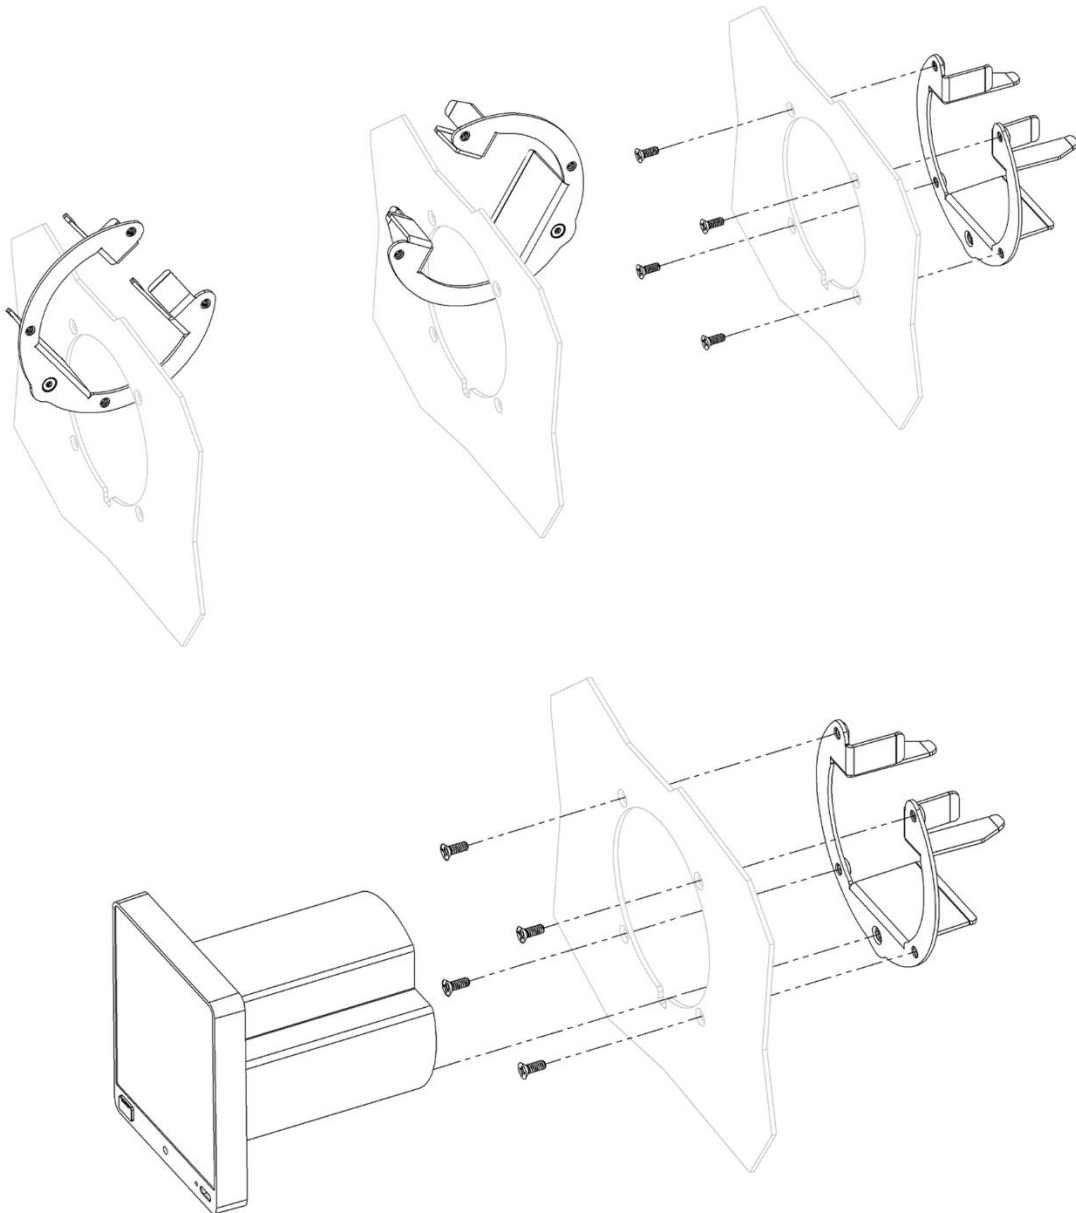

Figure 6: Instrument Panel Installation
- If retrofitting an EFIS-D10A with a D30, the holes drilled in the instrument panel for the EFIS-D10A can be reused for the D30's bracket (see Figure 6).
4. Feed mount bracket through instrument hole, as shown in Figure 6, and then secure to instrument panel with provided hardware.
6. Insert unit into instrument hole and mount bracket, as shown in Figure 6.